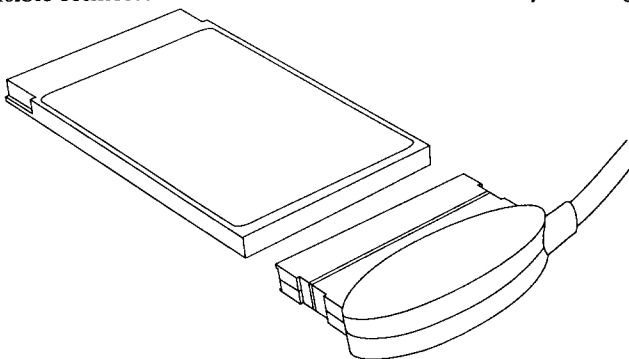

Figure 2 SlimSCSI Proprietary Connector
- 1 Connect your **SlimSCSI** adapter to its proprietary cable connector; the reversible connector allows it to be connected either way. (see *Figure 2*).
This section documents the SCSI interface connectors on the **SlimSCSI** adapter cable as well as the typical mating connectors found on SCSI devices. Note that the connector on the **SlimSCSI** adapter itself and the cable connector (that connects to the **SlimSCSI** adapter) are proprietary (see *Figure 2*).